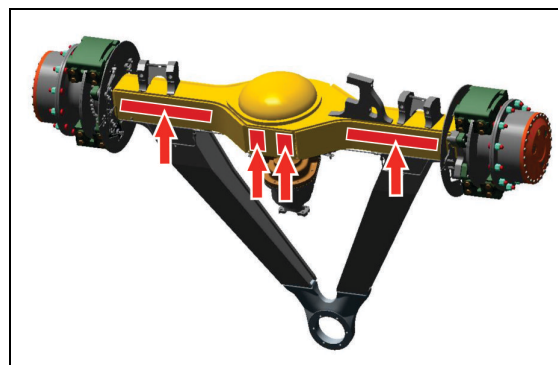
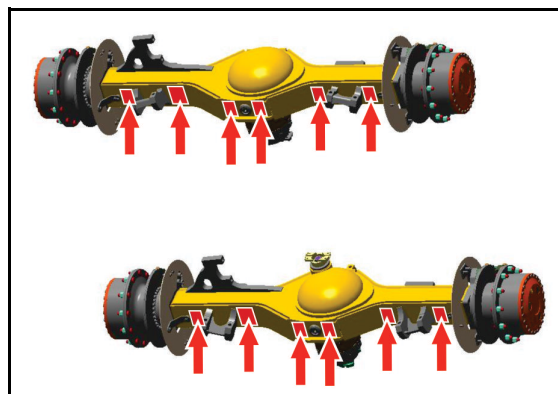

Figure 1: Jacking Positions on Front Axle
Figure 2: Jacking Positions on Mid & Rear Axles
9. Jacks may be located in any of the positions shown in red on Figure 1 or Figure 2